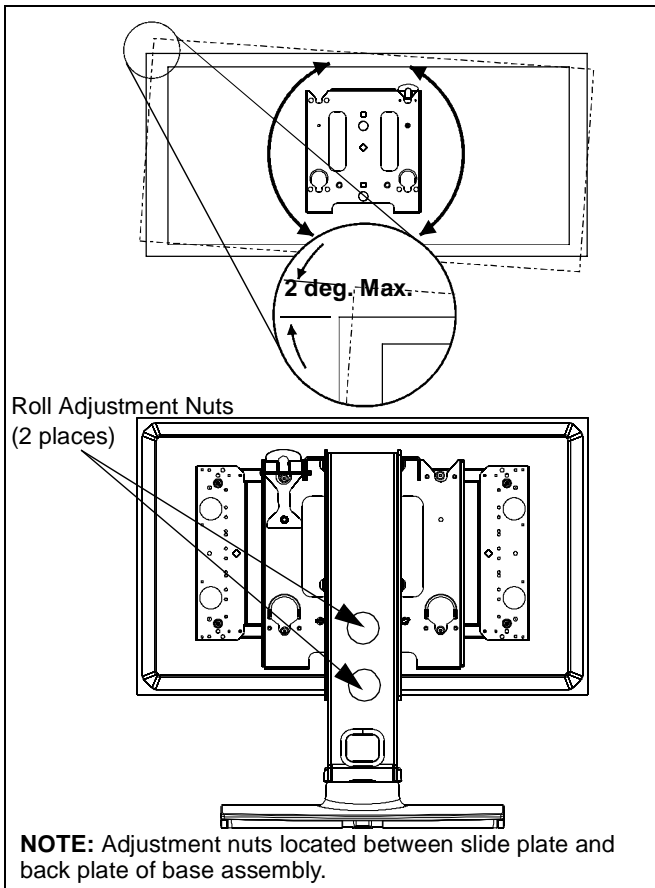

Figure 9
1. Loosen upper and lower roll adjustment nuts. (See Figure 9)
2. Level display. (See Figure 9)